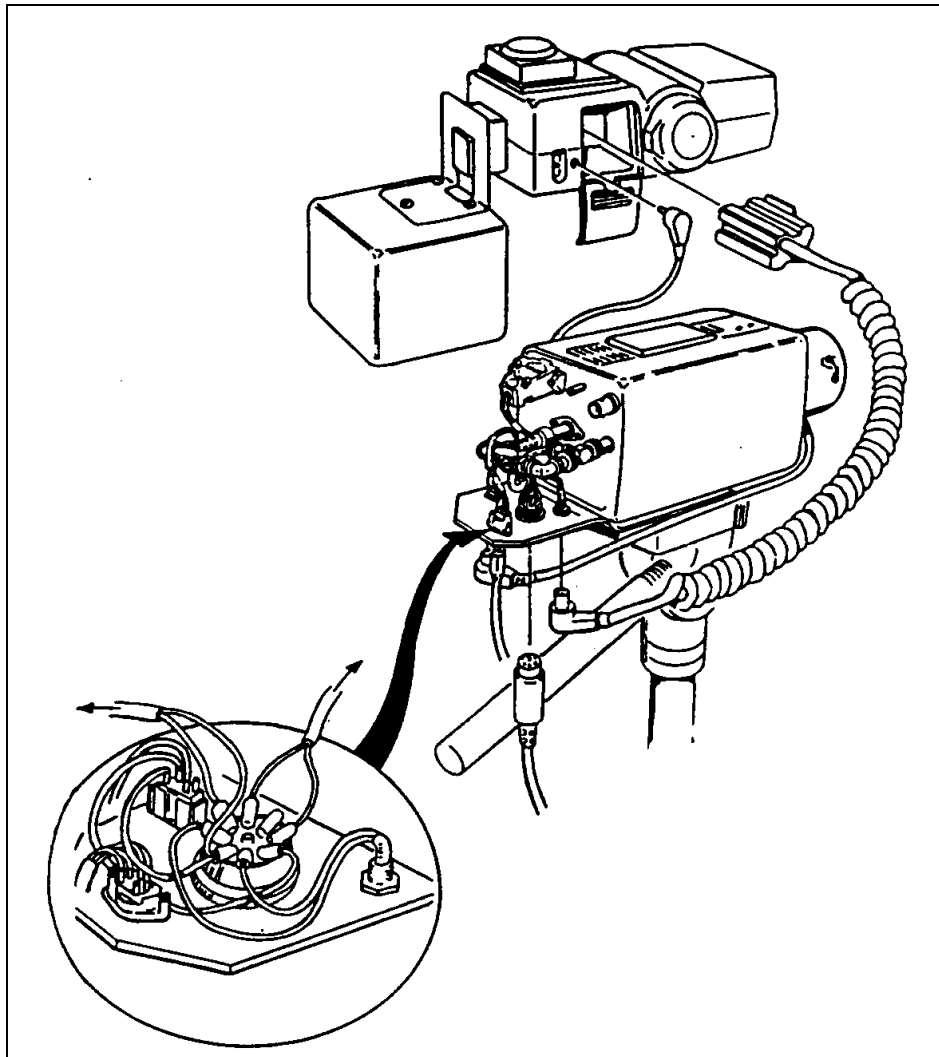

Figure 2-24. Camera Wiring and Connector Cover
4. Slide the connector cover in place and attach it with two screws (Figure 2-24).
6. Attach the strobe and bracket to the connector cover (Figure 2-24) with three Phillips-head screws.